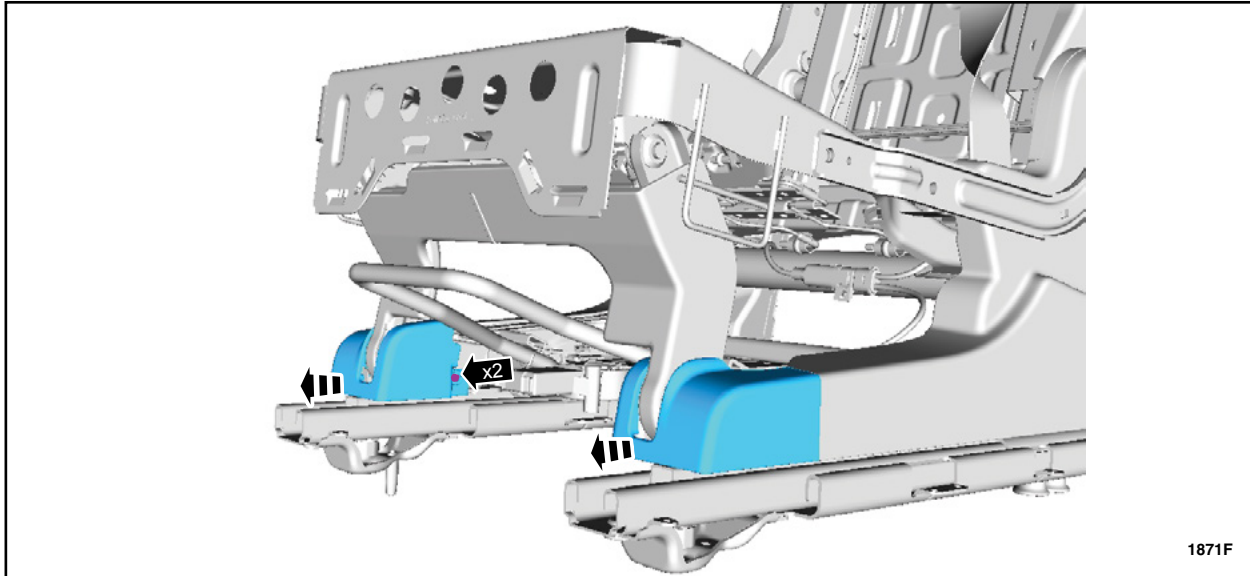

FIGURE 6
7. Remove the retainers and both front seat track shields. See Figure 6.
25. Install the front upper seat track covers and the retainers. See Figure 6.